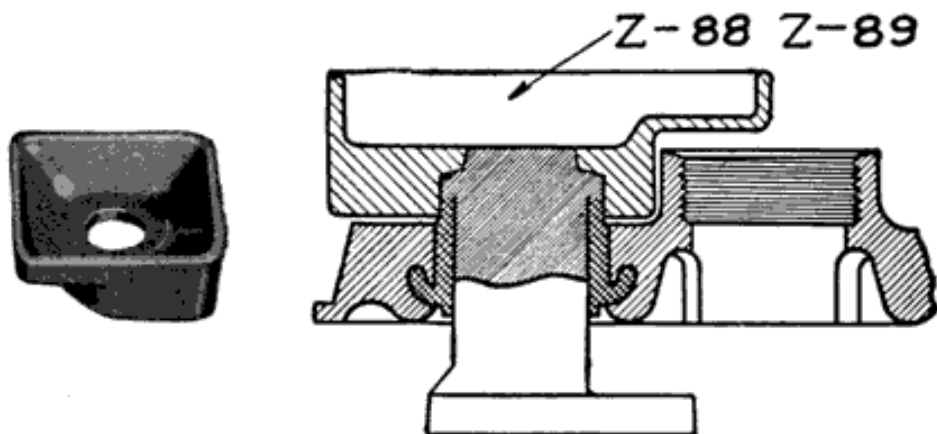

Fig. 284. Willard Burning Form Z-88 and Z-89, and How it Is Used
9. Remove form Z-87 and thoroughly brush off the top of the post stub. Then build up the stub post, using Willard burning form Z-88 on the positive posts and form Z-89 on the negative posts (Fig. 284).